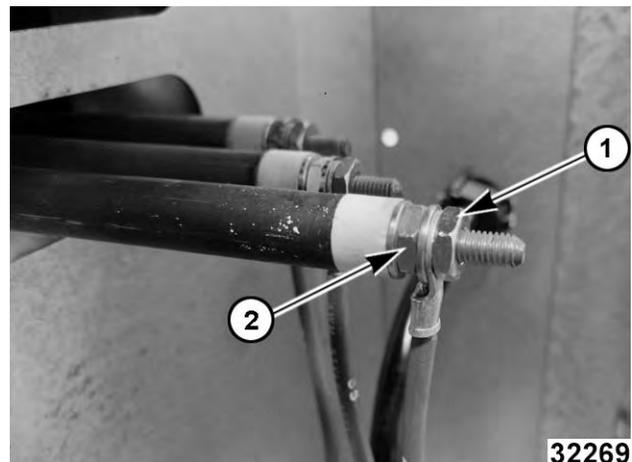

Fig. 15
3. Remove nuts (1, Fig. 15) from element wiring connections.
Use second wrench on nut (2, Fig. 15) behind terminal when removing or installing to prevent element stud from twisting and getting damaging.